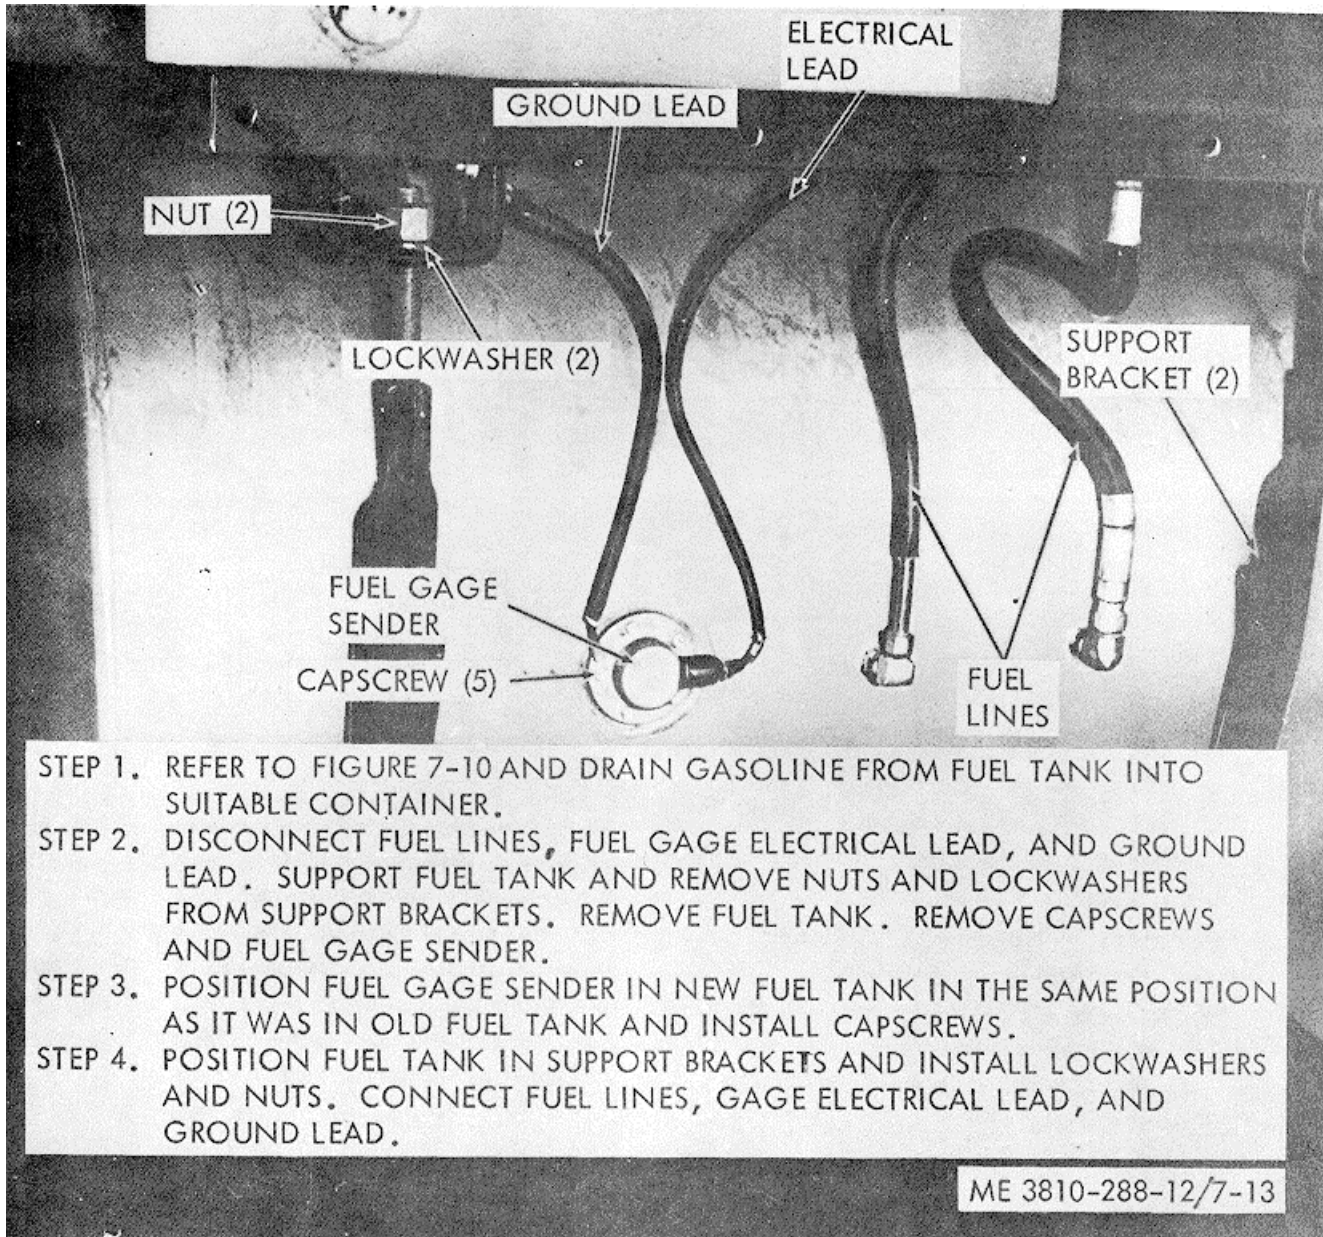

Figure 7-13. Fuel tank, removal and replacement.
b. *Fuel Tank Replacement.* Refer to figure 7-13 and replace the fuel tank.